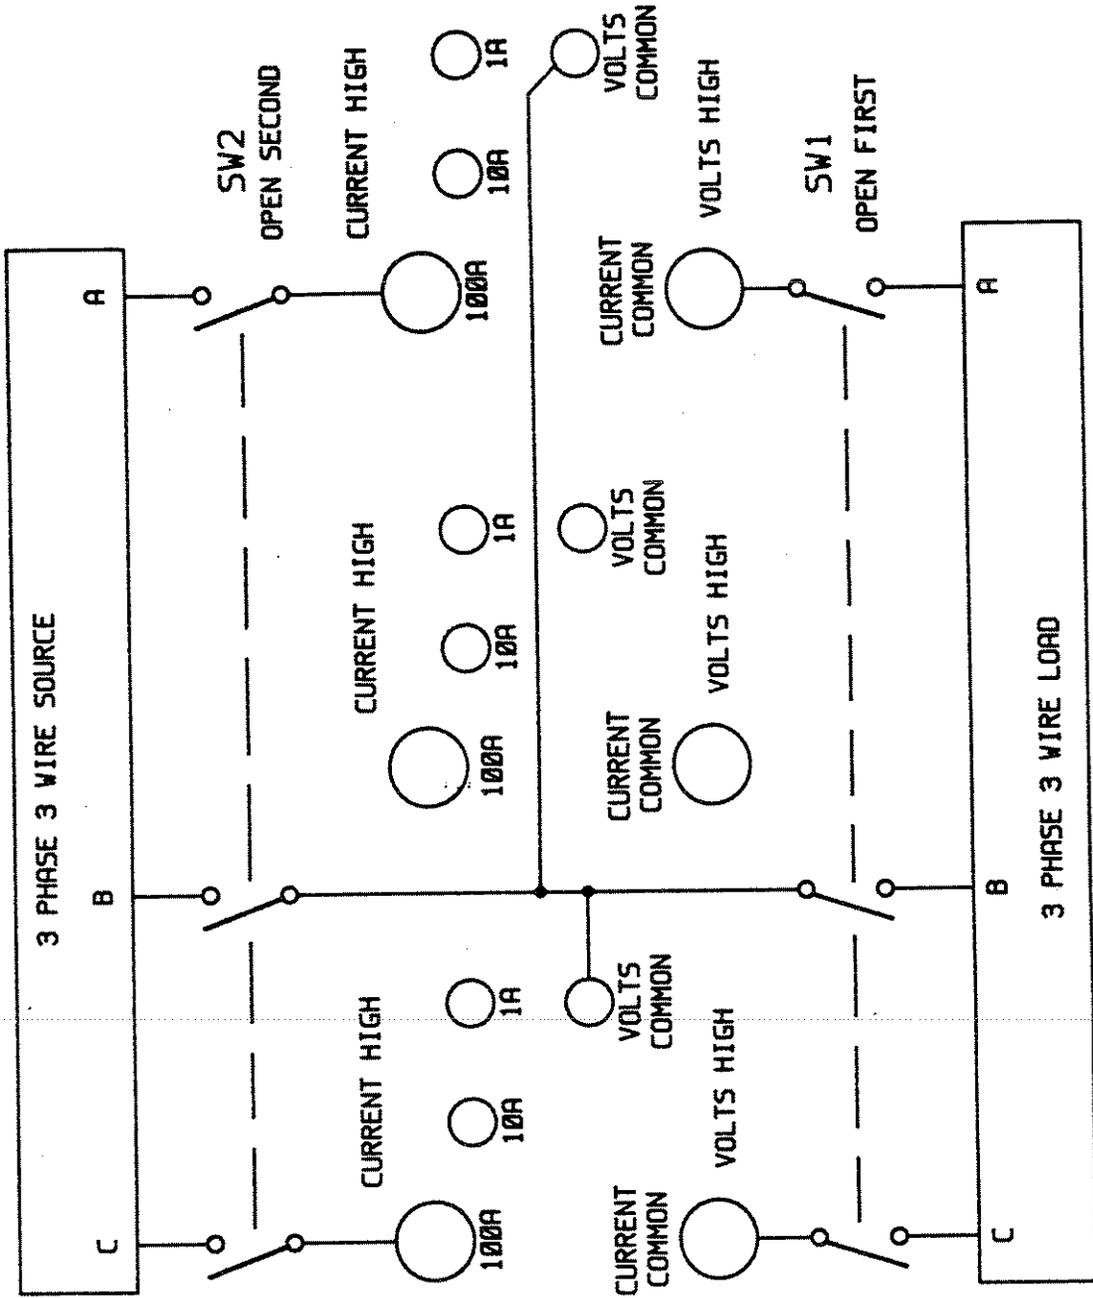

FIGURE 2 3 PHASE 3 WIRE INDUCTIVE LOAD PROTECTION METHOD 1
- Figure 2. Single-phase Three-wire Connections